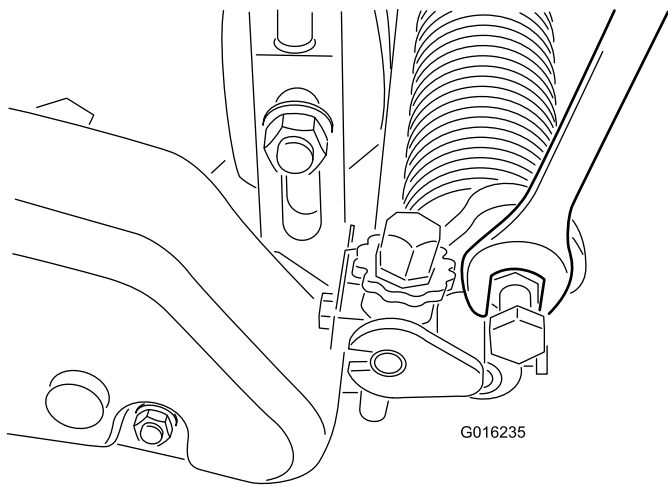

Figure 24
- B. Rotate the arms up or down to the A or B position (Figure 24).